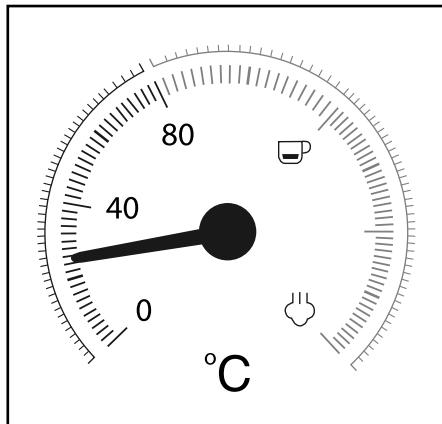

Figure 1
The temperature indicator ② indicates how far the appliance has heated up (Figure 1).